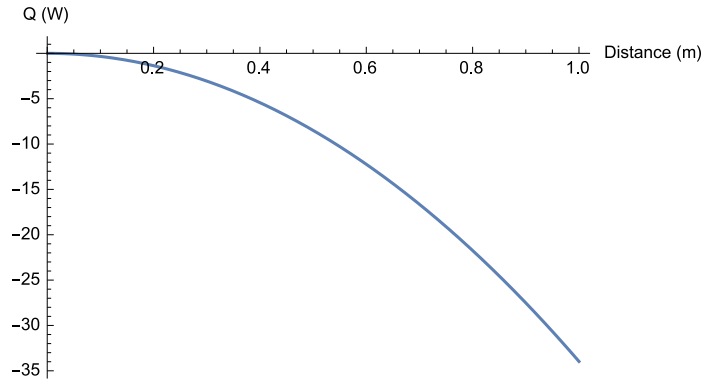

Figure 2.5: Heat rate cross conical section
3. If  $a$  changes from 0.001 to 1, as  $Q$  has expression changes with  $a$ , we can sketch  $Q$ 's changes with  $a$  as shown in figure 2.5.